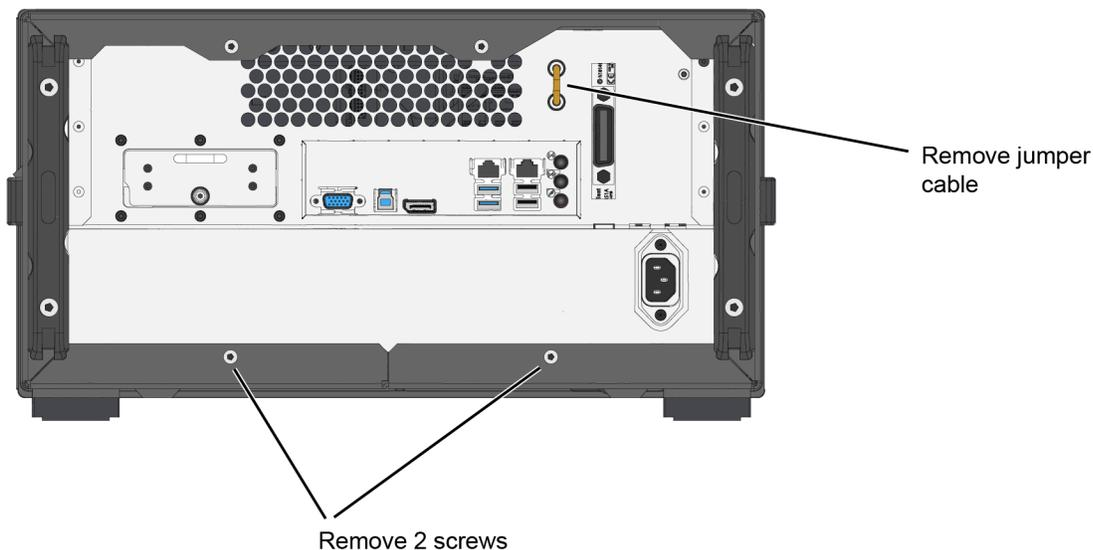

Figure 20. Remove jumper cable and screws
1. Remove the rear-panel jumper cable on the N1000A (or 86100D) as shown in Figure 20.